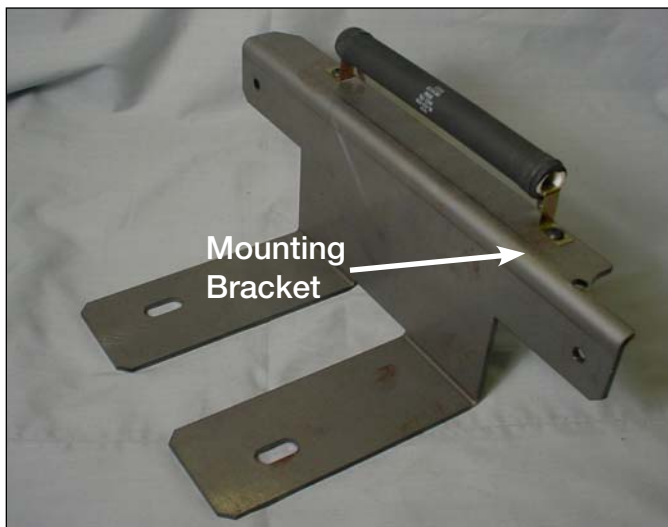
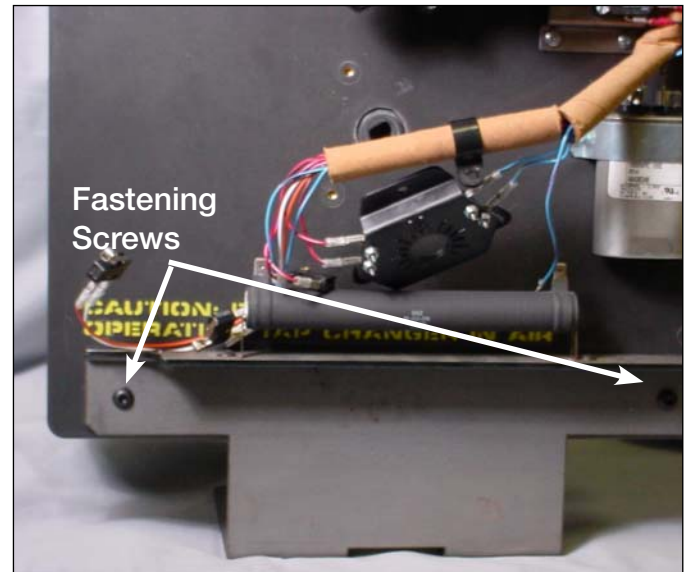

Figure 24.
Figure 25.
6. Place the mounting bracket, see Figure 24, to the base of the tap changer assembly and fasten with two pan head hex screw and tighten with a 5/32 Allen Wrench. See Figure 25.